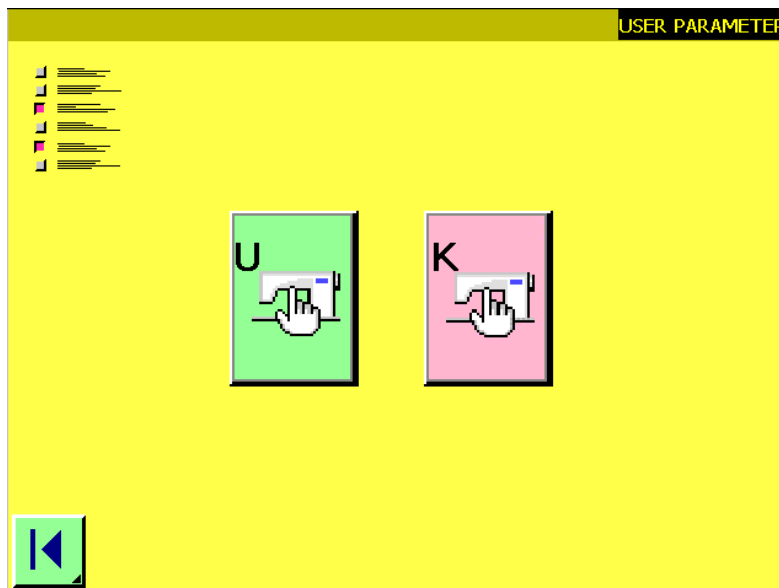

figure 6.1
- 1 Press user parameter button  in the main menu screen and the <user parameter> screen is displayed. See figure 6.1.